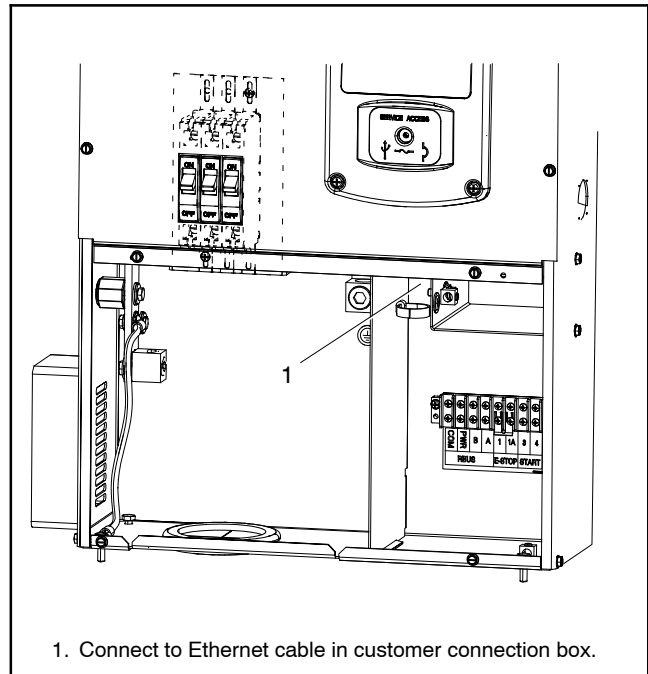

Figure 2-6 Network Connection for OnCue Plus
5. Connect to the Ethernet cable in the customer connection area of the generator set. See Figure 2-6. Use an RJ45 inline coupler, provided with the OnCue Plus kit, to connect the customer's